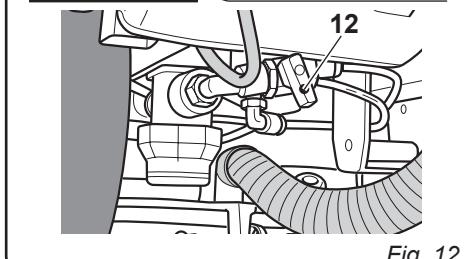

Fig. 12
9.1.e - Warnings while using the machine (Fig. 12/a)
9.1.f - Timer (Fig. 12/a)